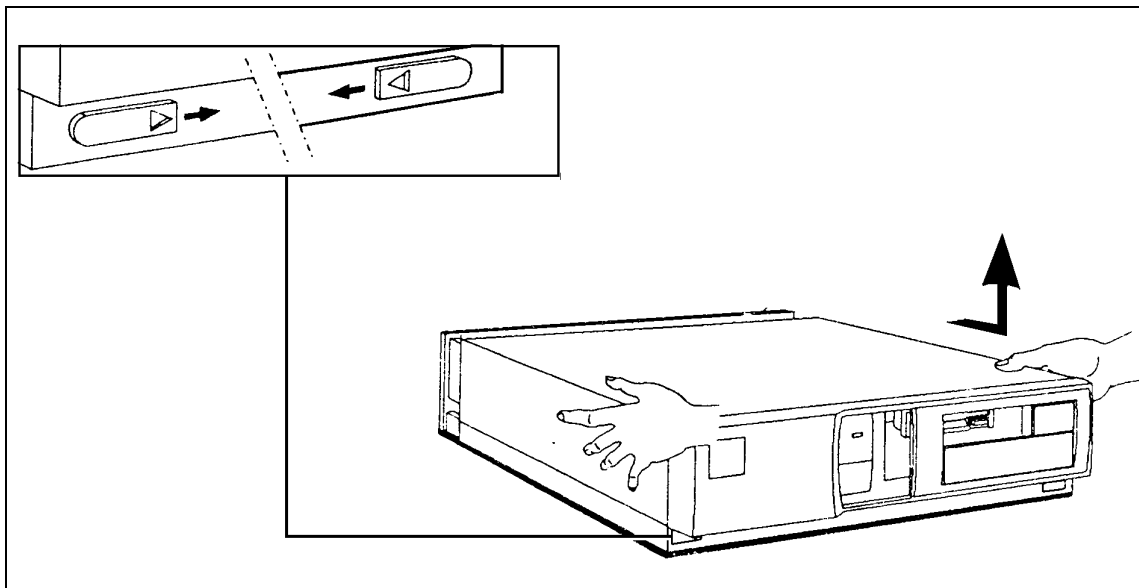

Figure 2-5. Removing the HP Vectra Cover
11. Remove the computer cover (Figure 2-5).